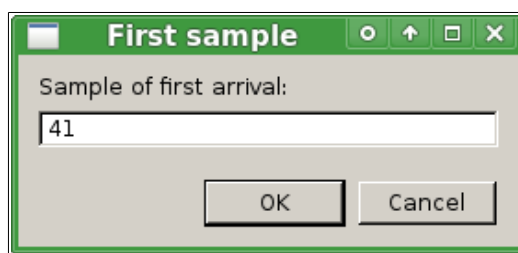

Figure 17. Time-zero selection.
**Time-zero** selects a starting place of the traces to correct the misalignment of the first break in a reflection profile between the air and ground mediums. This correction changes the geometry of the radargram (figures 17 and 18).